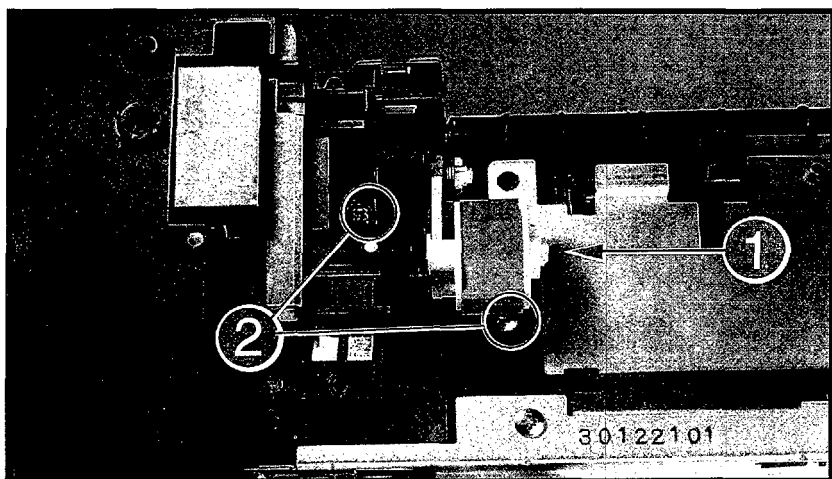

Figure 6-43 Removing the Pickup Feed Roller Assembly (bottom view)
3. Lift upward on the pressure clip on the end of the Pickup Feed D-Roller and remove the D-Roller (Figure 6-43, callout 1). This provides access to one of the mounting screws.
4. Remove the (2) self-tapping screws and lift the assembly straight out (Figure 6-43, callout 2).